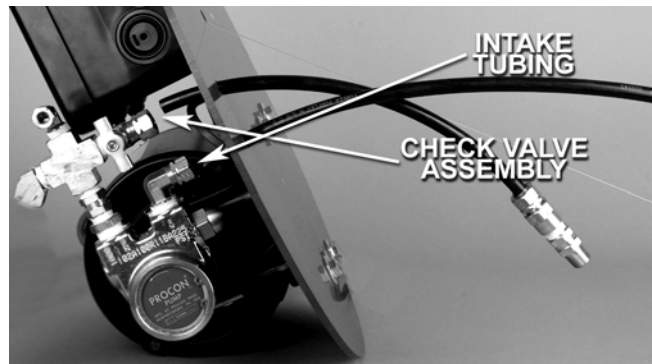

Figure 2 – PVC Circle with Intake Tubing and Check Valve Assembly
3. Run the end of the intake tubing from the intake filter through the PVC circle and connect it to the pump suction inlet (figure 2).
4. Insert the check valve assembly through the PVC circle and connect it to the pressure-regulating valve (figure 2).